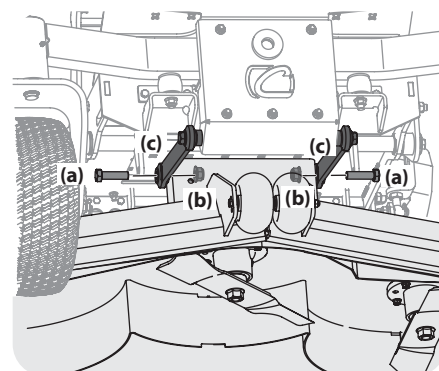

Figure 4-17
5. Remove the hex screws (a) flange lock nuts (b) securing the front deck control rods (c) to the deck. See Figure 4-17.